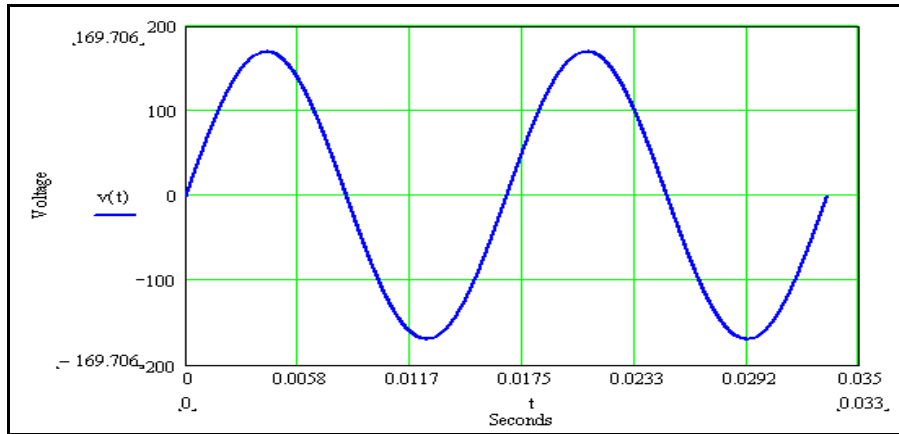

Figure 2 Ideal 120Vac RMS 60Hz sine-wave, 2-cycles.
The sine wave above in Figure 2 was generated perfect, containing no harmonics, shown over 2 complete cycles. In casual conversation, Engineer's hardly ever refer to the sine wave in Figure-2 with Equation (5). It should simply be called a $120V_{RMS}$ 60Hz sine wave. This is what the voltage coming out of your receptacle at home *should* look like if viewed on an oscilloscope.